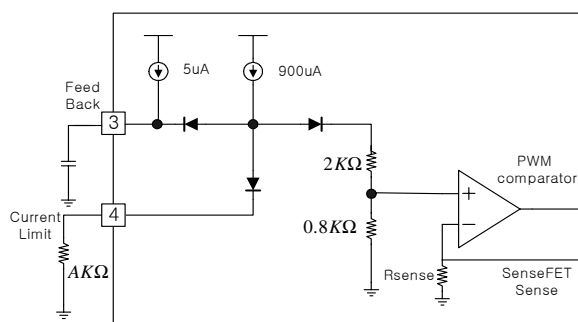

Figure 14. Peak current adjustment
8. Adjusting Current limit function: As shown in fig 14, a combined $2.8K\Omega$ internal resistance is connected into the non-inverting lead on the PWM comparator. A external resistance of Y on the current limit pin forms a parallel resistance with the $2.8K\Omega$ when the internal diodes are biased by the main current source of 900uA.